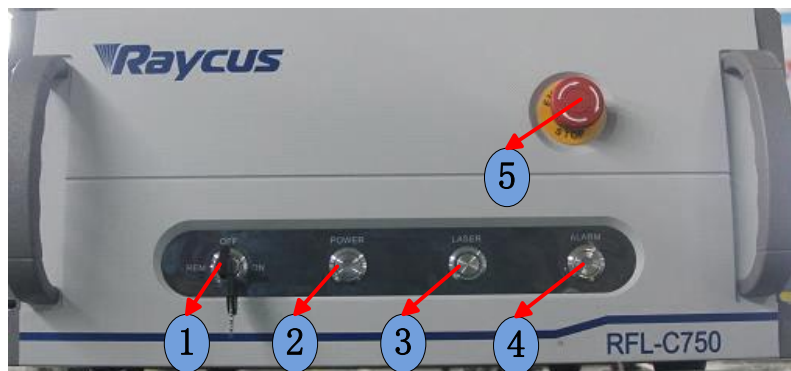

Figure 8 Front Panel View of RFL-C100~RFL-C1000
Figure 8 shows the front panel of RFL-C100~RFL-C1000 (take RFL-C750 for example, other models in the series have the same front panel):
1. **REM/OFF/ON:** Key switch, the power switch of the laser. Insert the key (**Item 6** in Figure 8(9)); either turn the key clockwise to the 'ON' position or counterclockwise to 'REM' position will power on the laser. Then the laser will enter a control mode depending on your previous setup on the 'CTRL-INTERFACE'. You can refer to 4.6 Control Mode for more details.